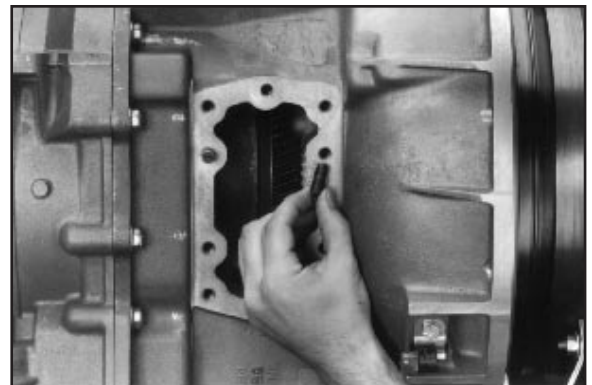

Fig. 4
4. Using a screwdriver, install the guide pins until they bottom out (**Fig. 4**) (Refer to Page 34 for correct location and use).